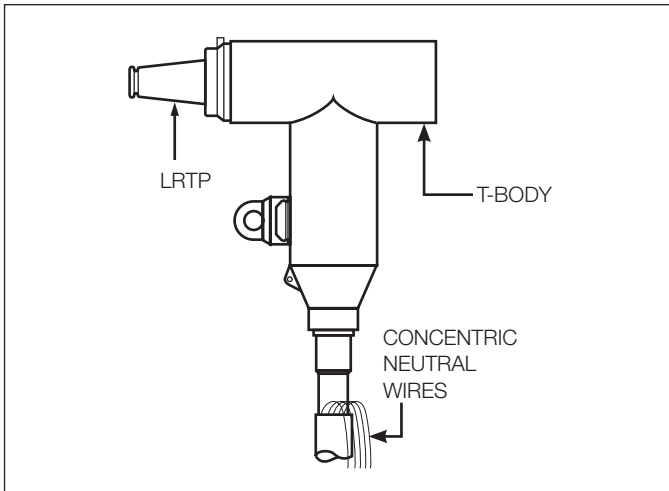

Figure 14.
- See Figure 14 for illustration of completed LRTP installation.